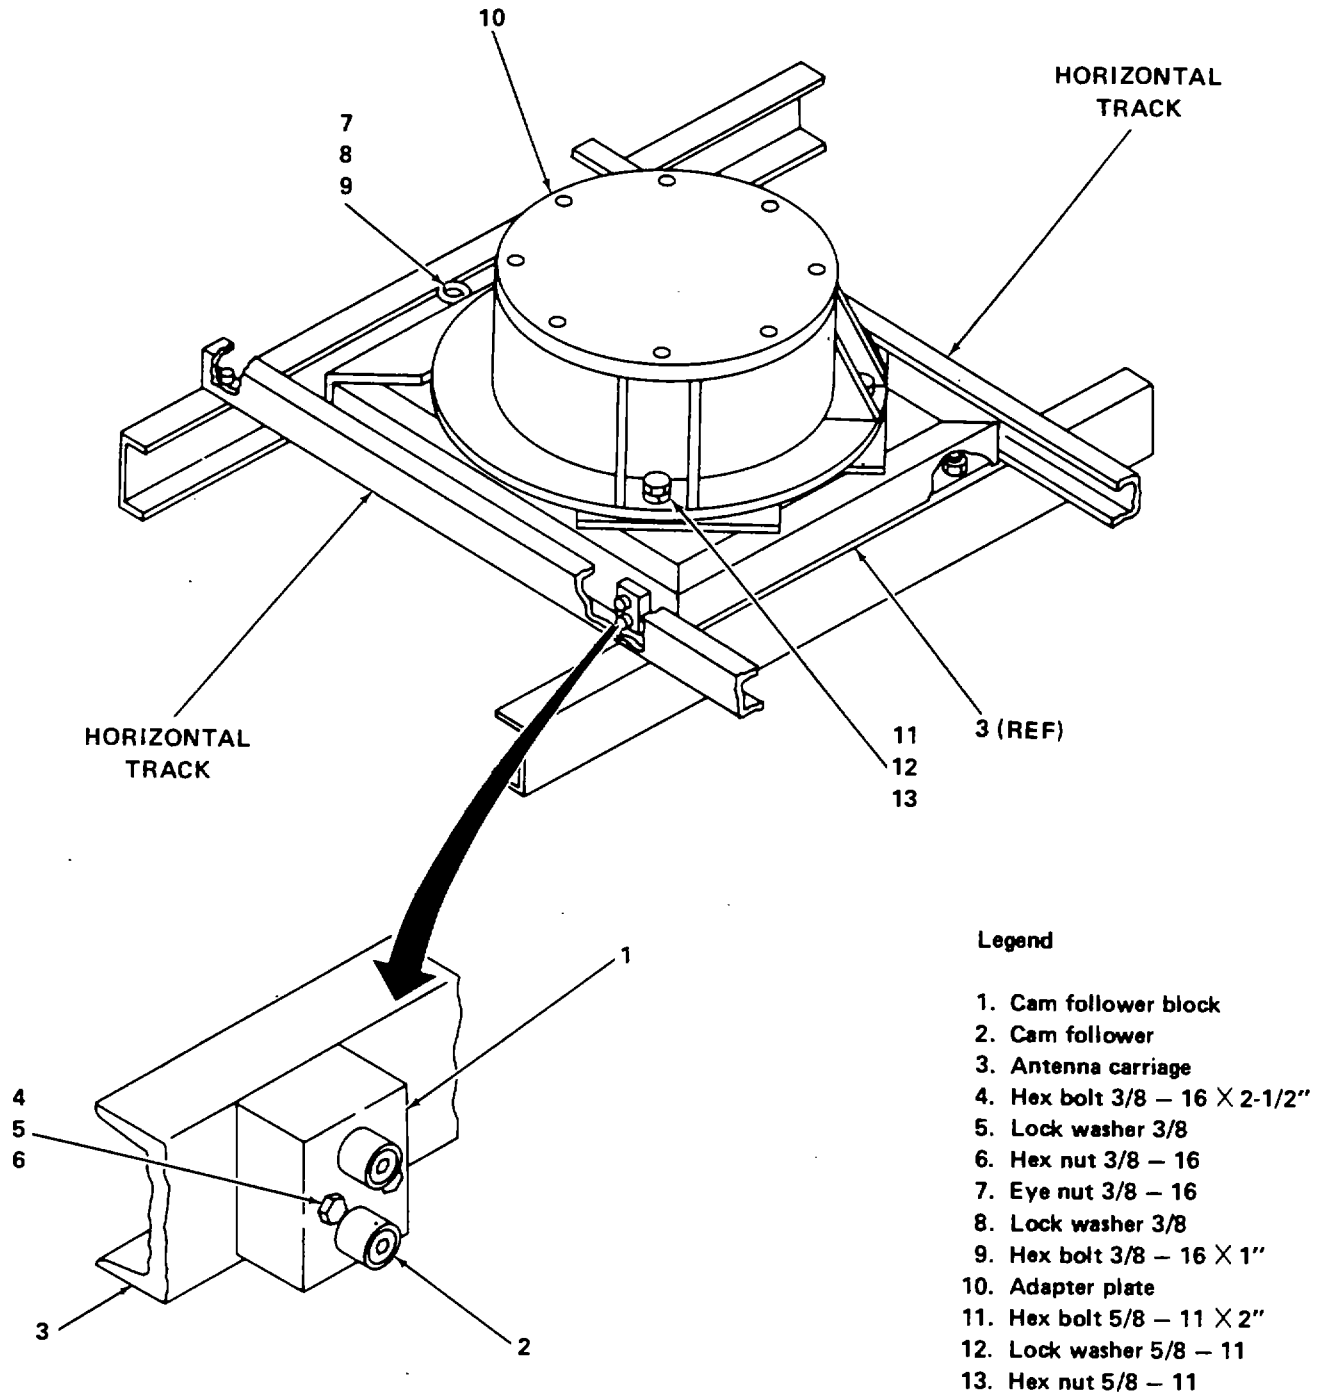
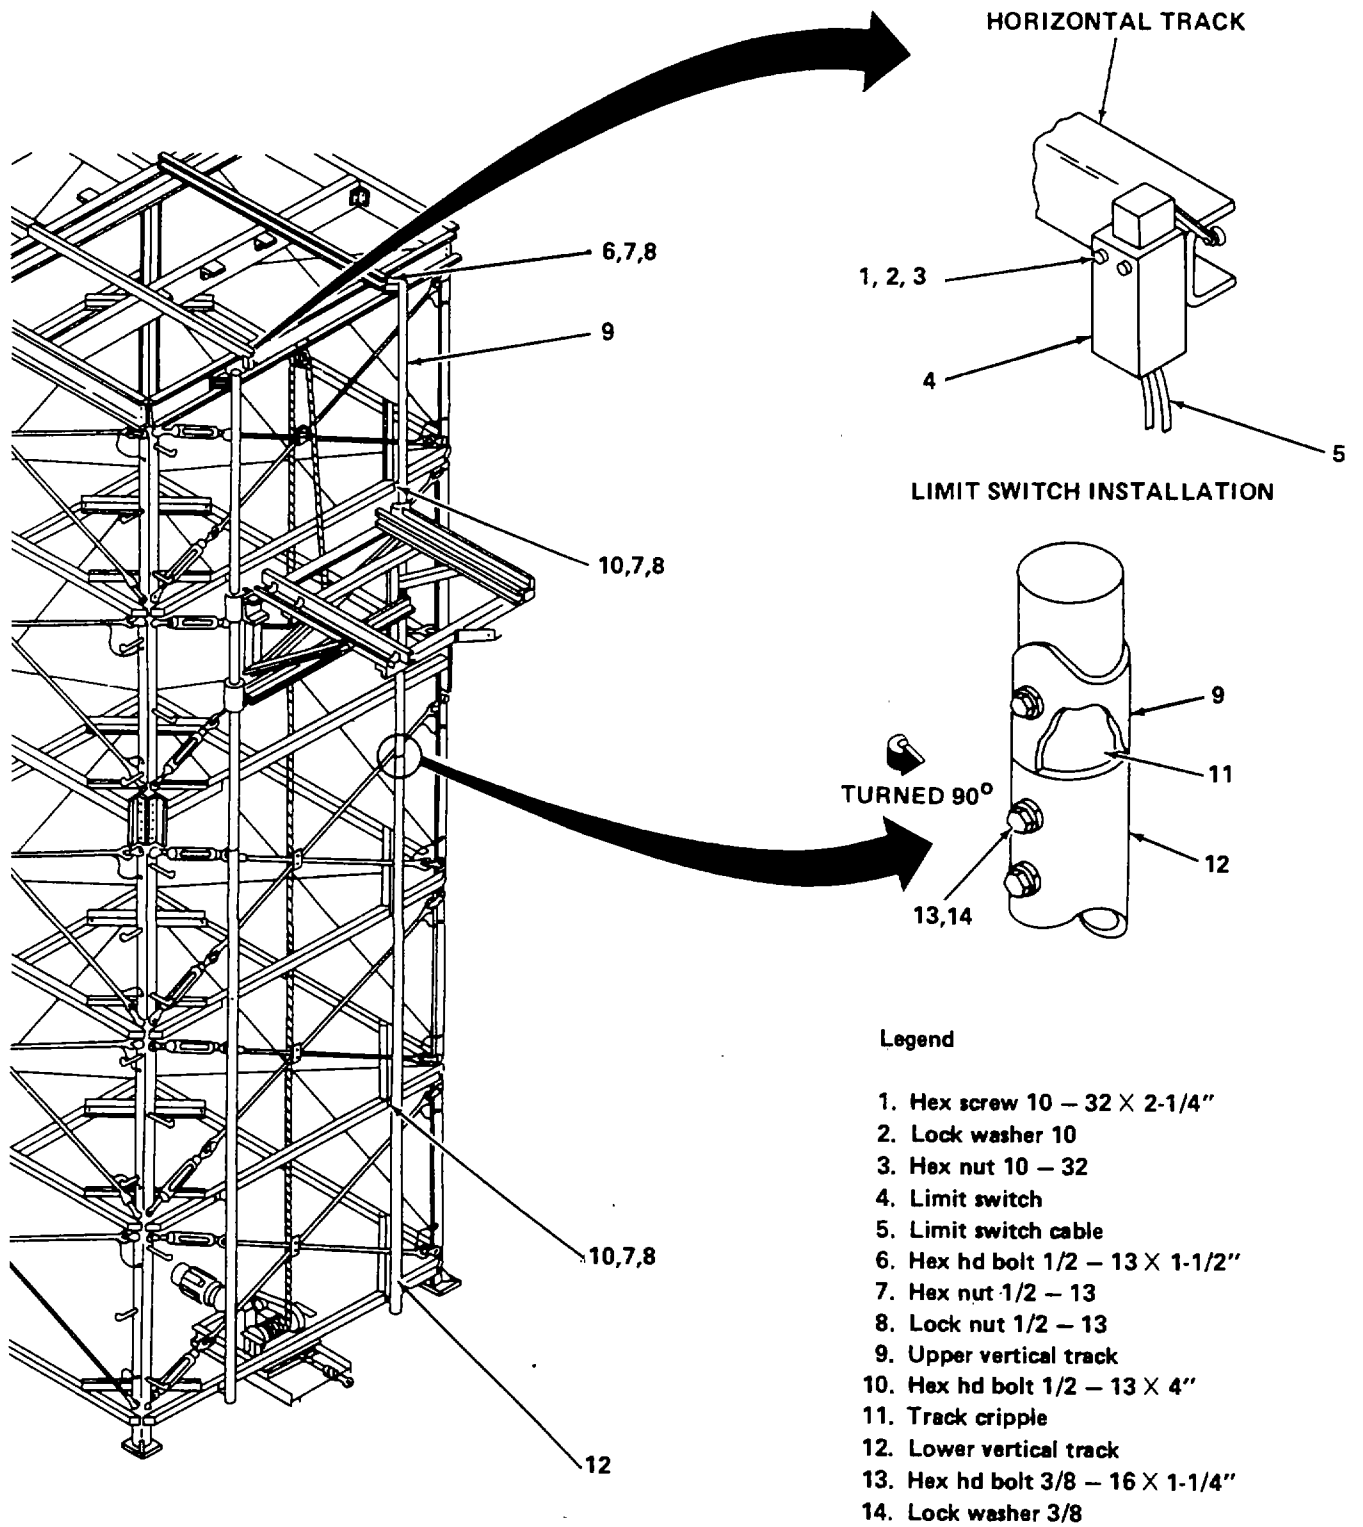

Figure 2-8. Carriage Installation
Figure 2-9. Vertical Track Installation
*f. Carriage Installation.* Refer to figure 2-8.
(1) Install four cam follower blocks (1) and eight cam followers (2) to carriage assembly (3). Secure with eight 3/8-inch bolts (4), lockwashers (5), and hex nuts (6).
(2) Install eyenut (7) to carriage assembly (3). Secure with lockwasher (8), and 3/8-inch bolt (9).
(3) Install carriage assembly (3) onto horizontal tracks.
*a. Vertical Track Installation.* Refer to figure 2-9.
(1) Raise one upper vertical track (9) into position and attach to top tower brace. Secure with four 1/2-inch bolts (6), hex nuts (7), and locknuts (8).
(2) Secure upper vertical track (1) to two uppermost horizontal braces with four 1/2-inch bolts (6), hex nuts (7), and locknuts (8).
(3) Install remaining upper vertical track in same manner as described in steps (1) and (2).
(4) Insert one track cripple (11) into top end of each lower vertical track (12). Secure cripple to lower vertical tracks with four 3/8-inch bolts (13) and lockwashers (14).
(5) Hoist lower vertical tracks (12), one at a time. Insert cripples into upper vertical tracks (9). Secure lower vertical tracks to three lower horizontal braces with 1/2-inch bolts (10), hex nuts (7), and locknuts (8).
(6) Secure track cripples to upper vertical tracks with one 3/8-inch bolt (13) and lockwasher (14) for each cripple.
(7) Install limit switch (4) and limit switch cable (5) to horizontal track. Secure with two screws (1), lockwashers (2), and hex nuts (3).